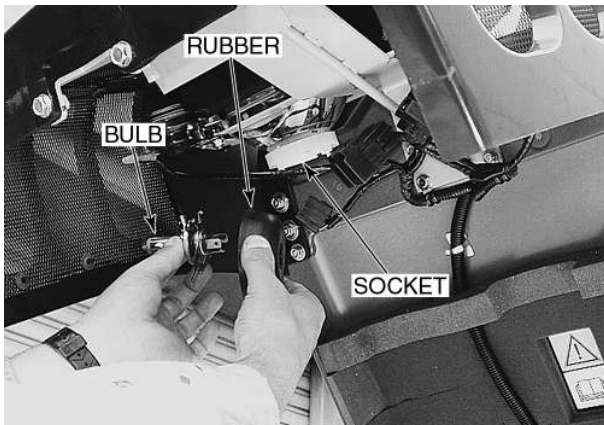

Figure 74 - Headlight Socket
1. Pull up the connector and socket from the housing, Figure 74.